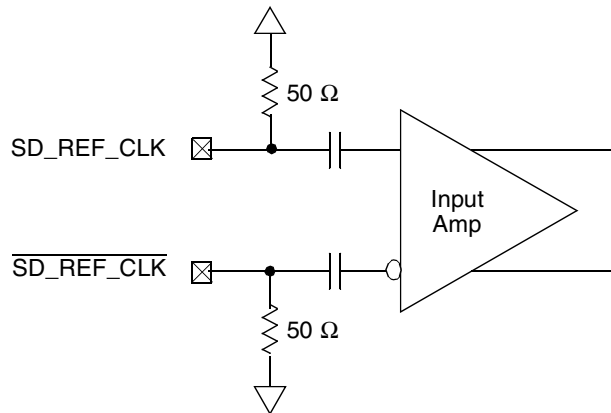

Figure 39. Receiver of SerDes Reference Clocks
Figure 39 shows a receiver reference diagram of the SerDes reference clocks.
- The  $SD\_REF\_CLK$  and  $\overline{SD\_REF\_CLK}$  are internally AC-coupled differential inputs as shown in Figure 39. Each differential clock input ( $SD\_REF\_CLK$  or  $\overline{SD\_REF\_CLK}$ ) has a 50- $\Omega$  termination to XCOREVSS followed by on-chip AC-coupling.